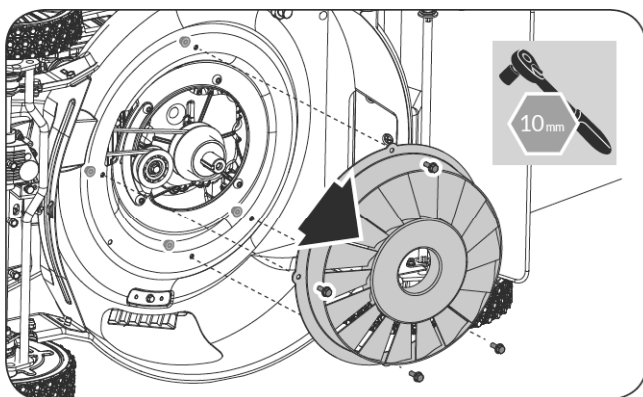

Figure 28
3. Remove the four M6x12 bolts fixing the engine pulley cover and put the engine pulley cover aside. (See **Figure 28**)